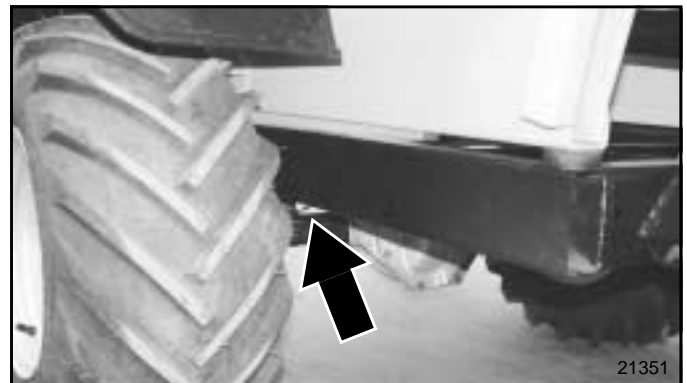

Figure 6-2
- b. **Rear tires:** Refer to Figure 6-2. Place jack under the main frame just in front of the axle.